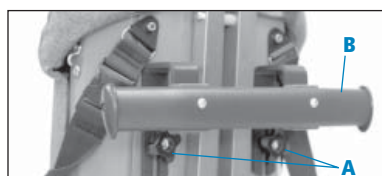

Figure 10a
Loosen the top two knobs (A) on the body support of the Dynamic Stander. Slide the slotted mounting bracket (B) behind the knobs and tighten them securely. Arm prompts, hand loops and/or the communication tray can now be attached (see Figure 10a).
Loosen the top two knobs (A) on the body support of the Dynamic Stander. Slide the slotted mounting bracket (B) behind the knobs and tighten them securely. Arm prompts and/or the communication tray and/or hand loops can now be attached (see Figure 10a).